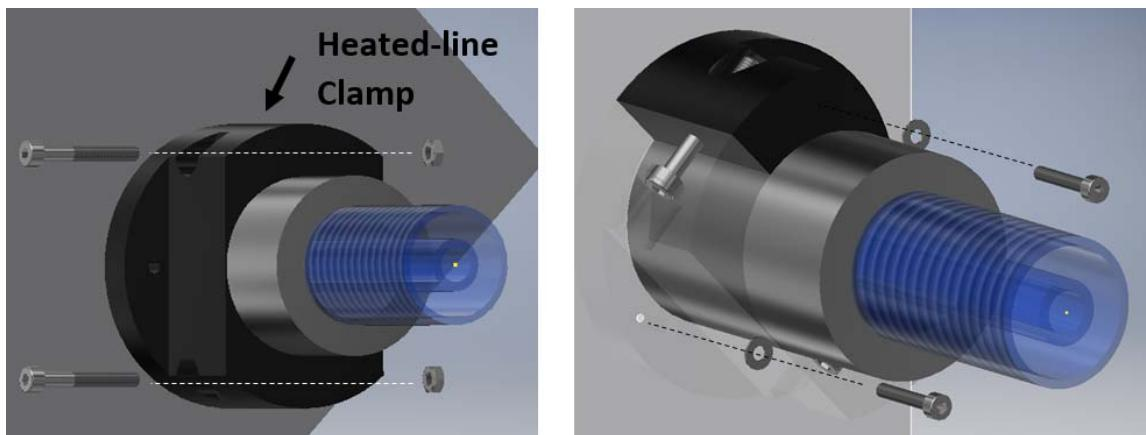

Figure D-16: Tosoh heated-line secured via clamp supplied by Wyatt (left) and secured to the oven via screws that connect the heated-line to the clamp (right)
3. Secure the Tosoh heated-line with a 2-piece clamp (P/N 165494) as shown on the left side of Figure D-16. The clamp is supplied in the Wyatt ship kit with appropriate screws. This 2-piece clamp can be oriented in any way. It is held together with two M4x30 screws and two M4 nuts. Use an appropriate Phillips screwdriver, which is not supplied in the ship kit.
4. Rotate the Tosoh heated-line and clamp (installed in the previous step) so that the heated-line and clamp can be secured as shown on the right side of Figure D-16. These may be secured with two M3x14 screws and two M3 washers. Because the Tosoh heated-line may have variations in threading and length, the Wyatt kit also provides M3x16, M2.5x14, and M2x16 screws as alternatives.